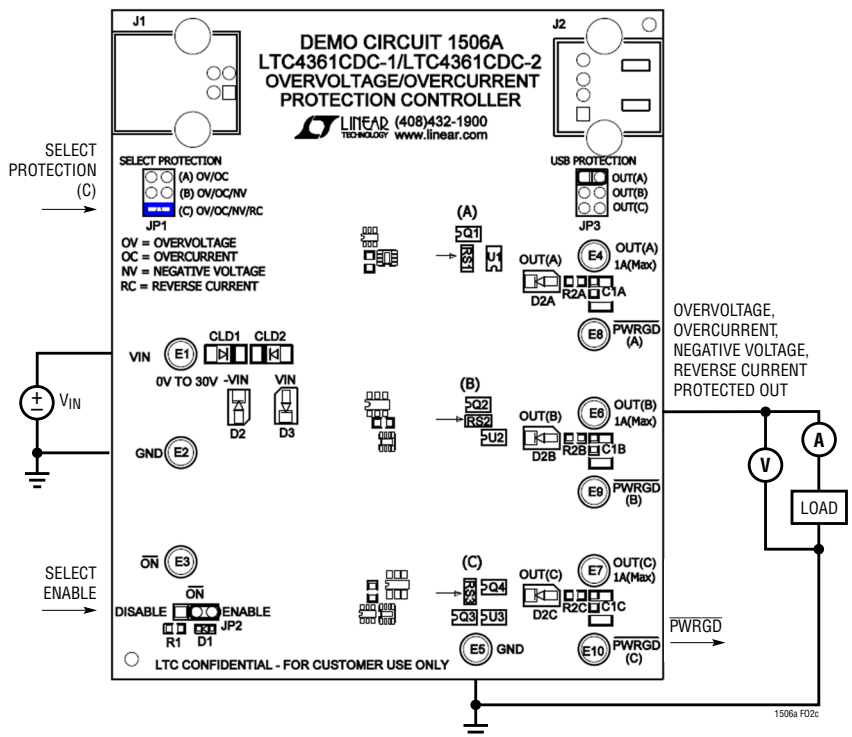

Figure 2c. DC1506A Protection (C) Setup for Overvoltage, Overcurrent, Negative Voltage, and Reverse Current
- c. For overvoltage, overcurrent, negative voltage, and reverse current protection select (C) OV/OC/NV/RC, connect to OUT(C). Figure 2c.